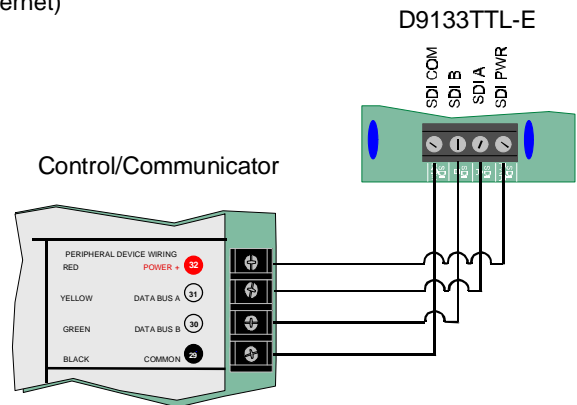

Figure 2: Wiring the D9133TTL-E
2. Wire the D9133TTL-E to the Control/Communicator as indicated in Figure 2 and in the table below.